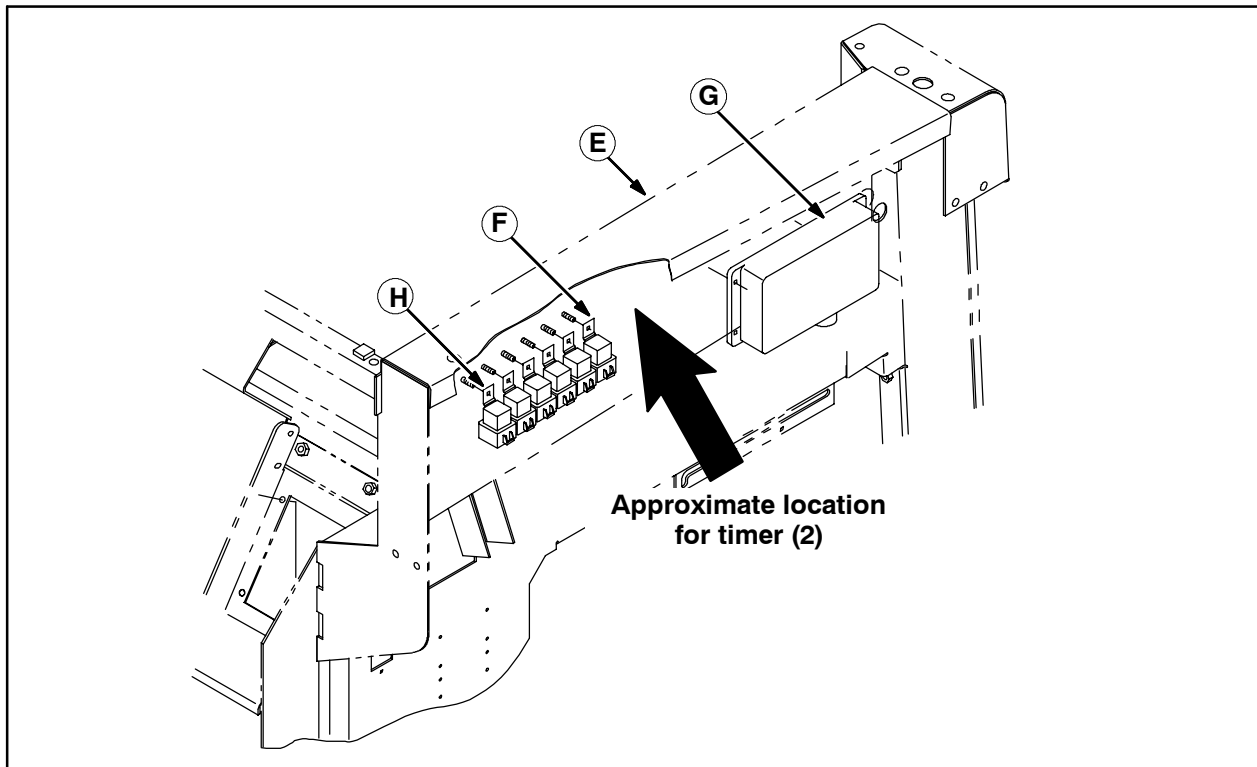

FIG. 4
6. Drill a 19/64" hole into the operator shroud weldment (E), midway between the relay (F) and the engine governor controller (G). Refer to Fig. 4.
7. Use a hex screw (4), hex nut (5), and washer (6) to mount the timer (2) where the hole was drilled into the operator shroud weldment (E) in the previous step. Refer to Fig. 4. Do not over tighten hardware since doing so could damage the timer.